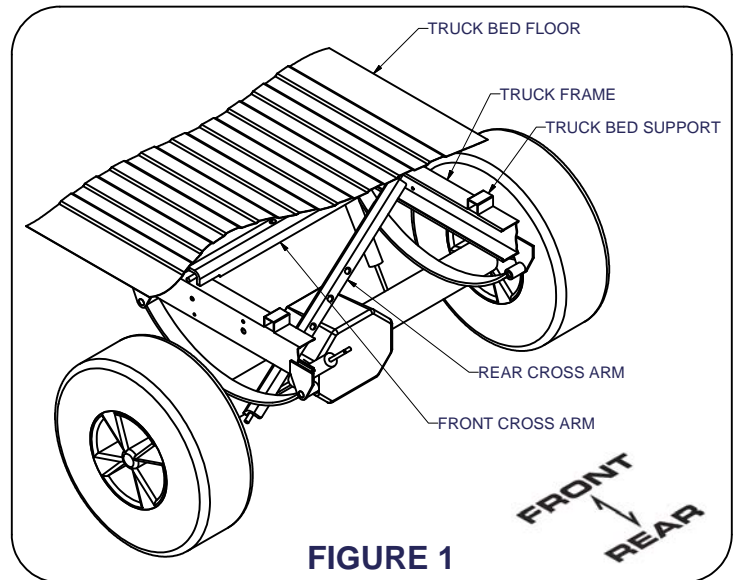
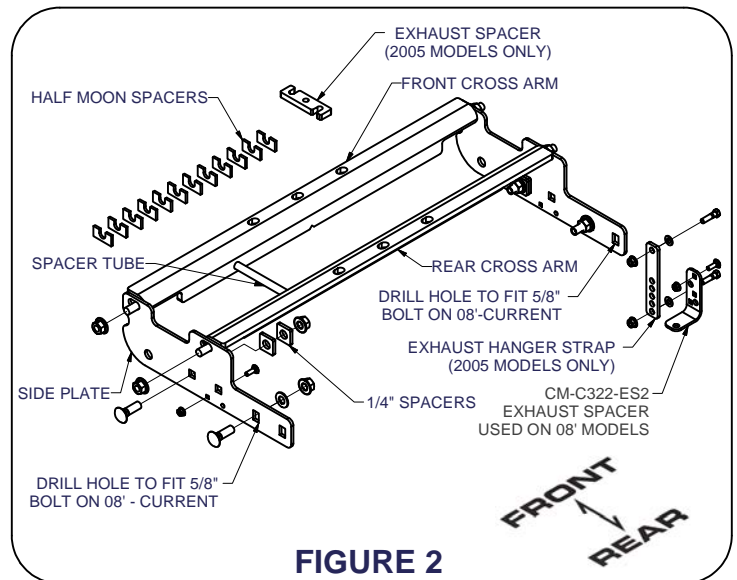

FIGURE 1
FIGURE 2
3. On 2005 models loosen the (2) bolts on the exhaust hanger mount in front of the rear axle between the exhaust hanger and the truck bed. Lower the exhaust approximately 1/2", insert the 1/2" spacer block provided and retighten bolts.
4. On 2005 models remove rear exhaust hanger and install exhaust strap as shown in **Figure 2**. Lower exhaust as needed for cross arm clearance.
5. Install cross arms by sliding them into the gap between the truck bed and frame on passenger side. Swing other end between the truck bed and frame gap on driver side. **(Note: Holes in the cross arms must face each other as shown in Figure 1.)**
6. Hang the side plates from the 5/8" studs extending from the cross arms. Secure each plate with (2) 5/8" flange nuts provided. Finger tight only.
7. Align side plates with the 3/4" slot in the frame. Place the 5/8" carriage bolts through side plate, (2) 1/4" spacers, and frame as shown in **Figure 2**. Use a 5/8" flange nut to secure, finger tight only. At this time, place another 5/8" carriage bolt through the other hole in the frame and sideplate or drill the hole to fit the 08' model trucks. Secure with a 5/8" flange nut and washer as shown.